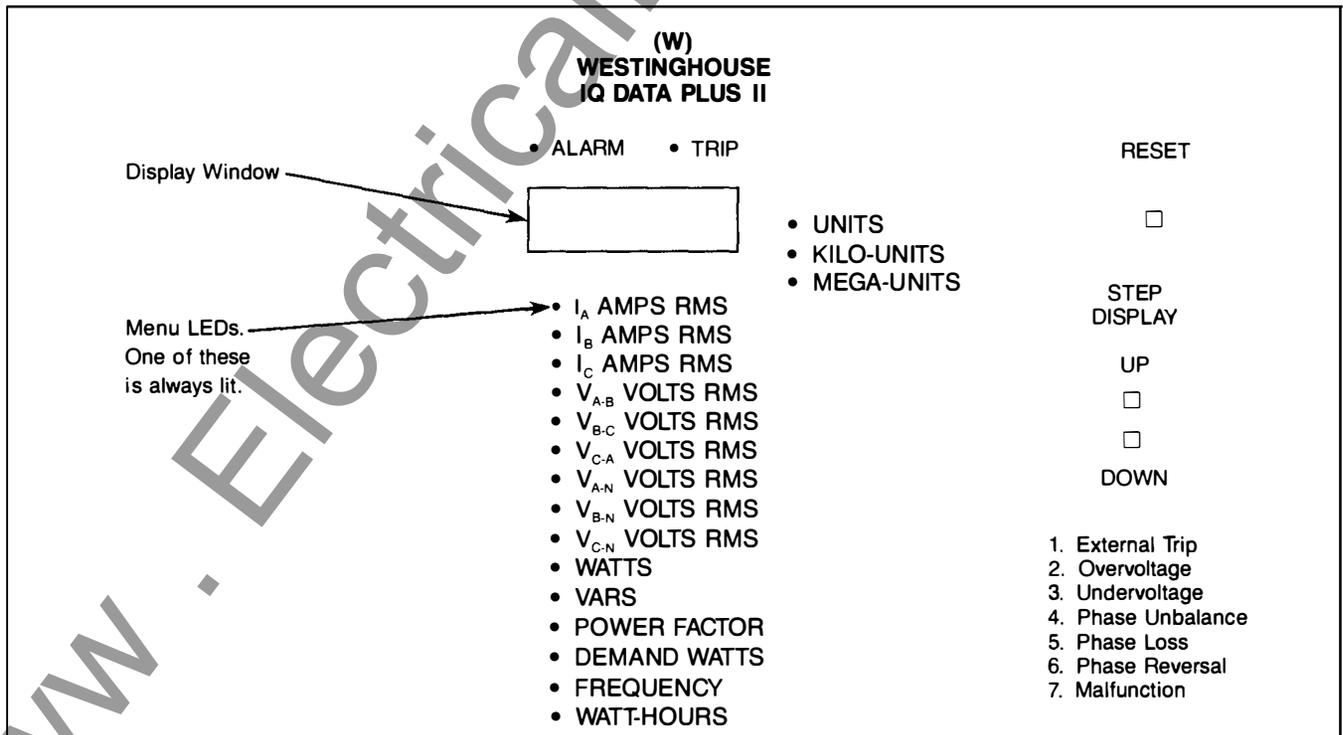

Figure 3.1 Operator Panel
- Monitor the actual metered values on the Display Window. (See Figure 3.1)
3.1 Membrane Pushbuttons — The Operator Panel supports 3 membrane pushbuttons. (See Figure 3.1.) The membrane pushbuttons perform the following functions:
3.2.2 Units LEDs: Auto range units for monitoring — Units, kilo, mega. Refer to Figure 3.1.